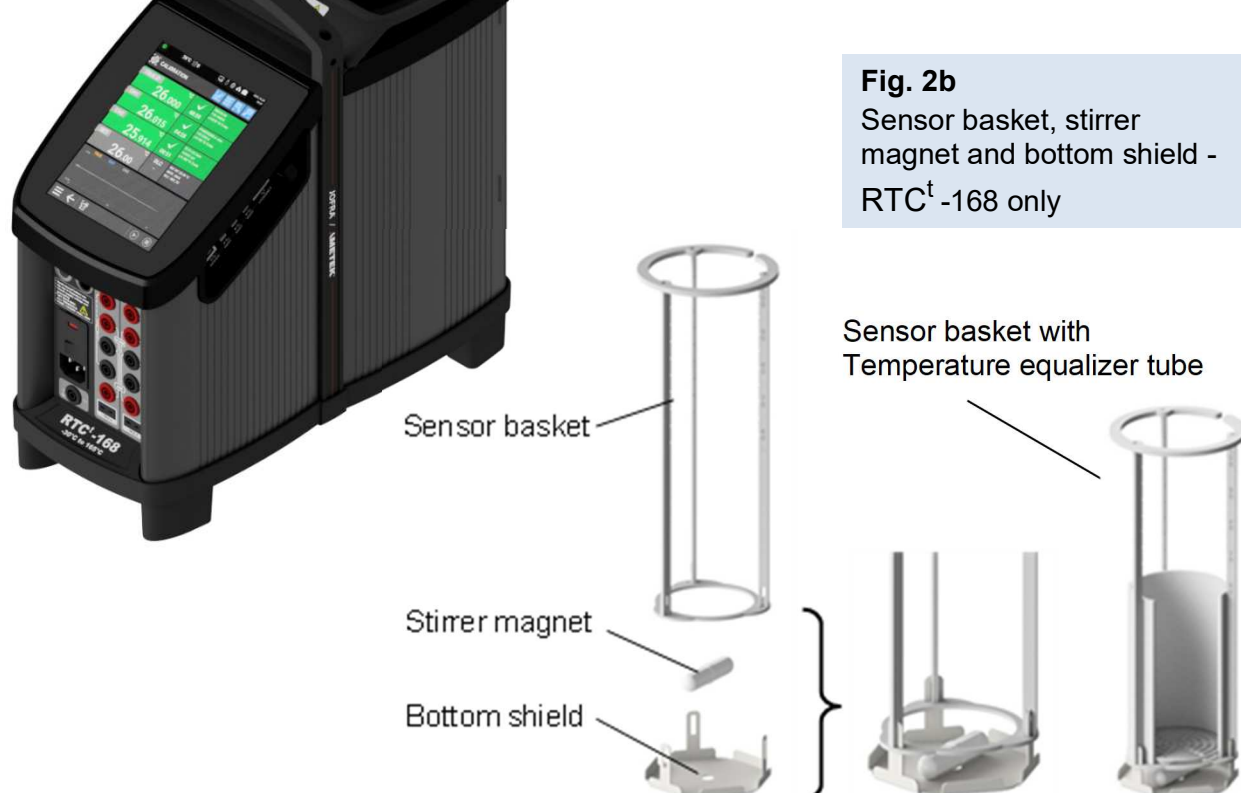

Fig. 2b
- **Sensor basket complete** – Assemble the sensor basket before placing it in the well : Place the stirrer magnet in the sensor basket on the bottom shield and insert the temperature equalizer tube with the integrated grate into the sensor basket (see Fig 2b). It is very important to place the assembled sensor basket in the well before any calibration is attempted, as it ensures that the sensors encounter maximum temperature stability and uniformity while ensuring that the stirring magnet is not blocked.